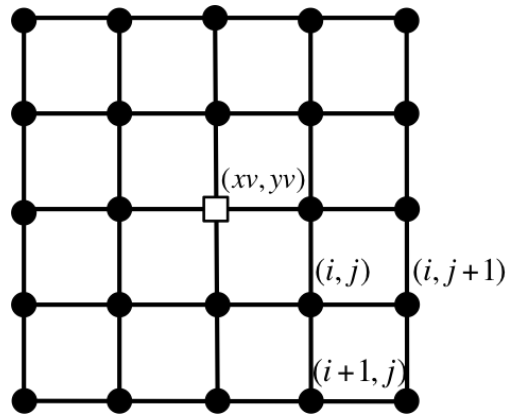

Figure 0.6: Identification of sites coordinates in the lattice and coordinates of a vacancy (represented by a square)
5. If the matrix has the configuration of figure 0.6, what does the matrix in Matlab look like (with the numbers)? (Include a printout of the matrix).